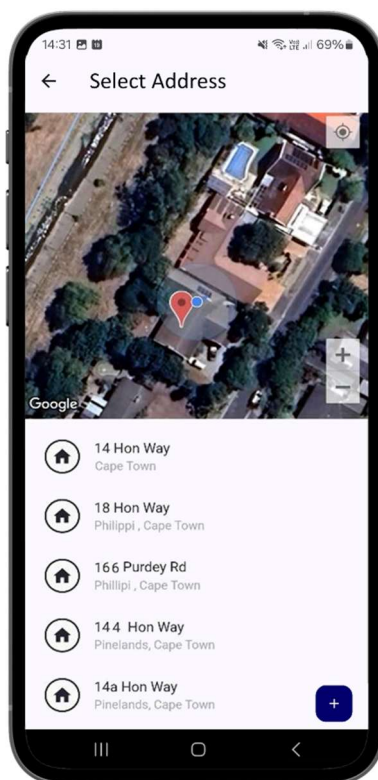

Figure A5 Select address
16. The app should connect to the server and obtain a list of addresses corresponding to your GPS co-ordinates (**Figure A5**). (You might need to switch on your phone GPS and allow the app to use your location services.)